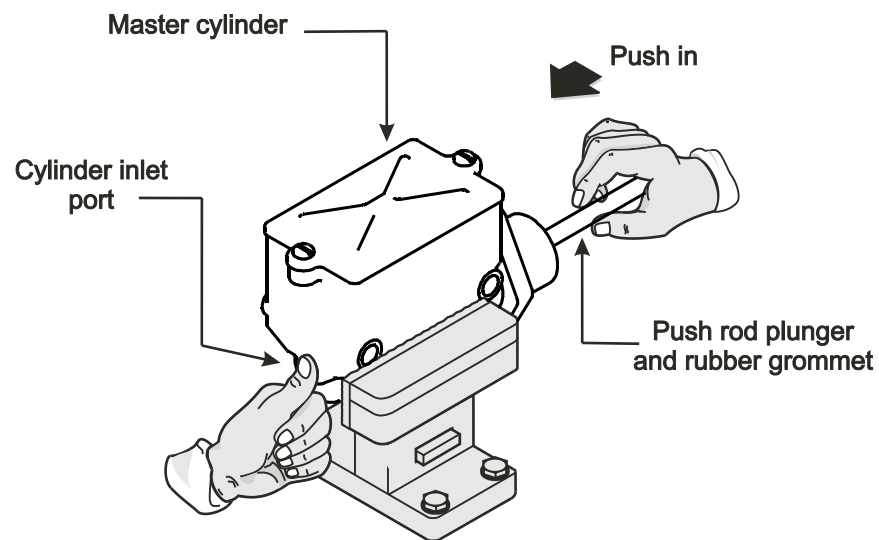

Figure 6-17 Support and Bench Bleed the Cylinder
1. Support the cylinder (in a vise) to prevent fluid spillage while allowing you to push the internal piston (See Figure 6-17).
3. Slowly push in on the rubber boot and cylinder plunger (push rod) assembly to force air from the cylinder, then hold the piston in (See Figure 6-17).